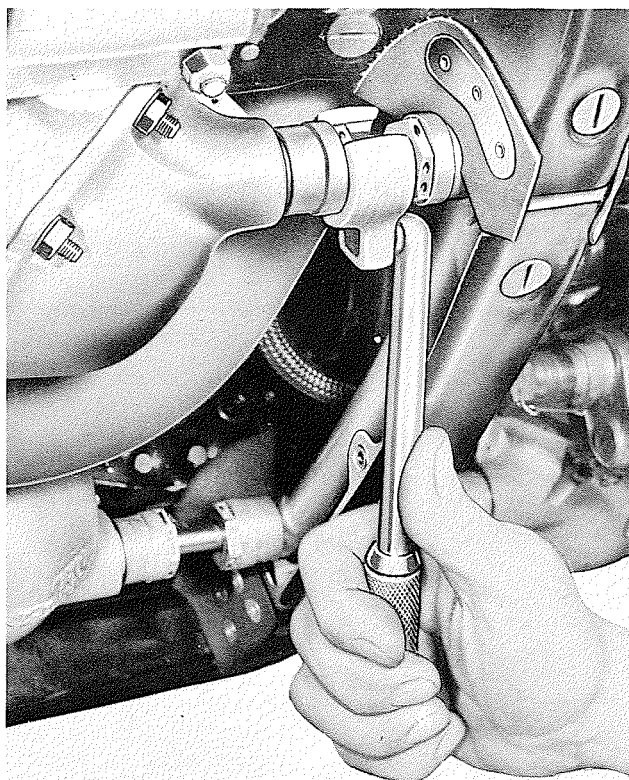

Figure 7-24. Loosening Rocker Box to Drain Manifold Tube Nut
a. Loosen the gland nuts at the rocker box cover and at the drain manifold, using wrench 807012. See figure 7-24.